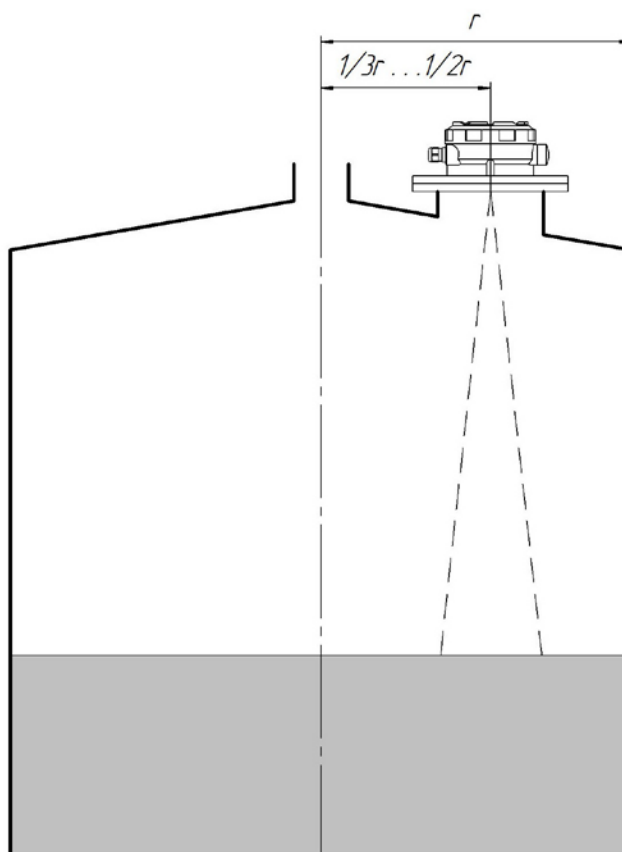

Fig. 4.7. Installation of the device
- The distance between tank wall and central axis of level sensor must be within the range from  $\frac{1}{2}$  to  $\frac{1}{3}$  of the tank radius, Fig. 4.7;